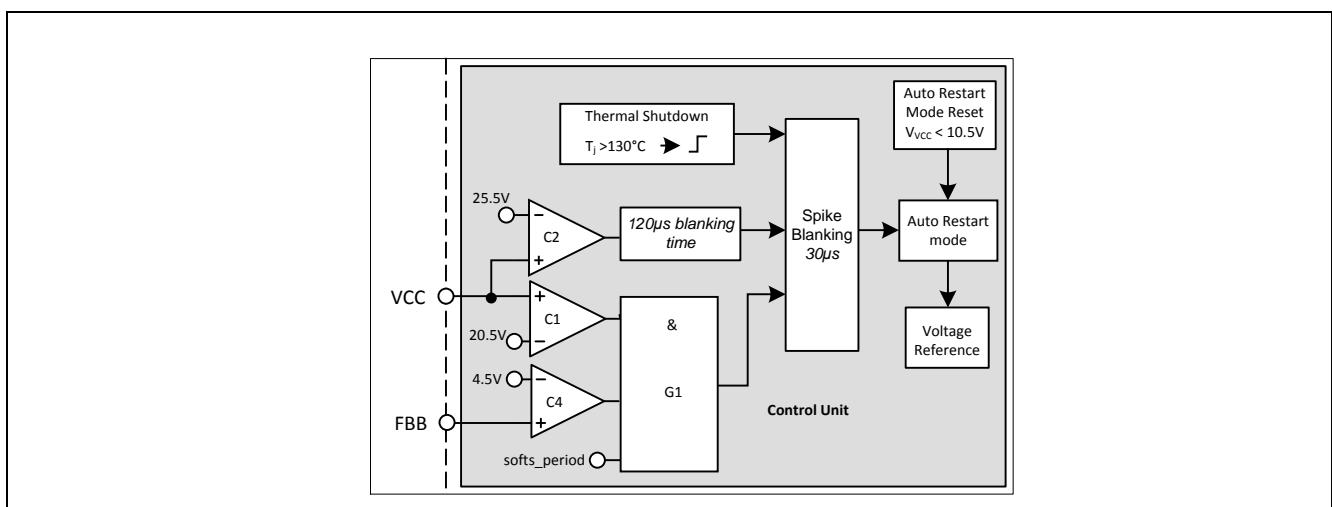

Figure 30: V_{cc} OVP and OTP
V_{cc} OVP (1) condition is when V_{VCC} voltage is > 20.5V, V_{FBB} voltage is > 4.5V and during soft start period, the IC enters into odd skip Auto Restart Mode. This condition likely happens during start up at open loop fault (Figure 30).
V_{CC} OVP (2) condition is when V_{CC} voltage is > 25.5V, the IC enters into odd skip Auto Restart Mode (Figure 30).
The over temperature protection OTP is sensed inside the controller IC. The Thermal Shutdown block keeps on monitoring the junction temperature of the controller. After detecting a junction temperature higher than 130°C, the IC will enter into the non switch Auto Restart mode. The ICE3AR4780VJZ has also implemented with a 50°C hysteresis. That means the IC can only be recovered when the controller junction temperature is dropped 50°C lower than the over temperature trigger point (Figure 30).